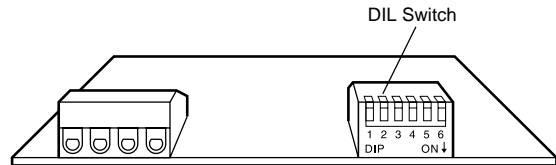

Fig.5
8. Select desired mode via the DIL switch (Fig.5). The adjacent table shows the available modes together with the required DIL switch setting.